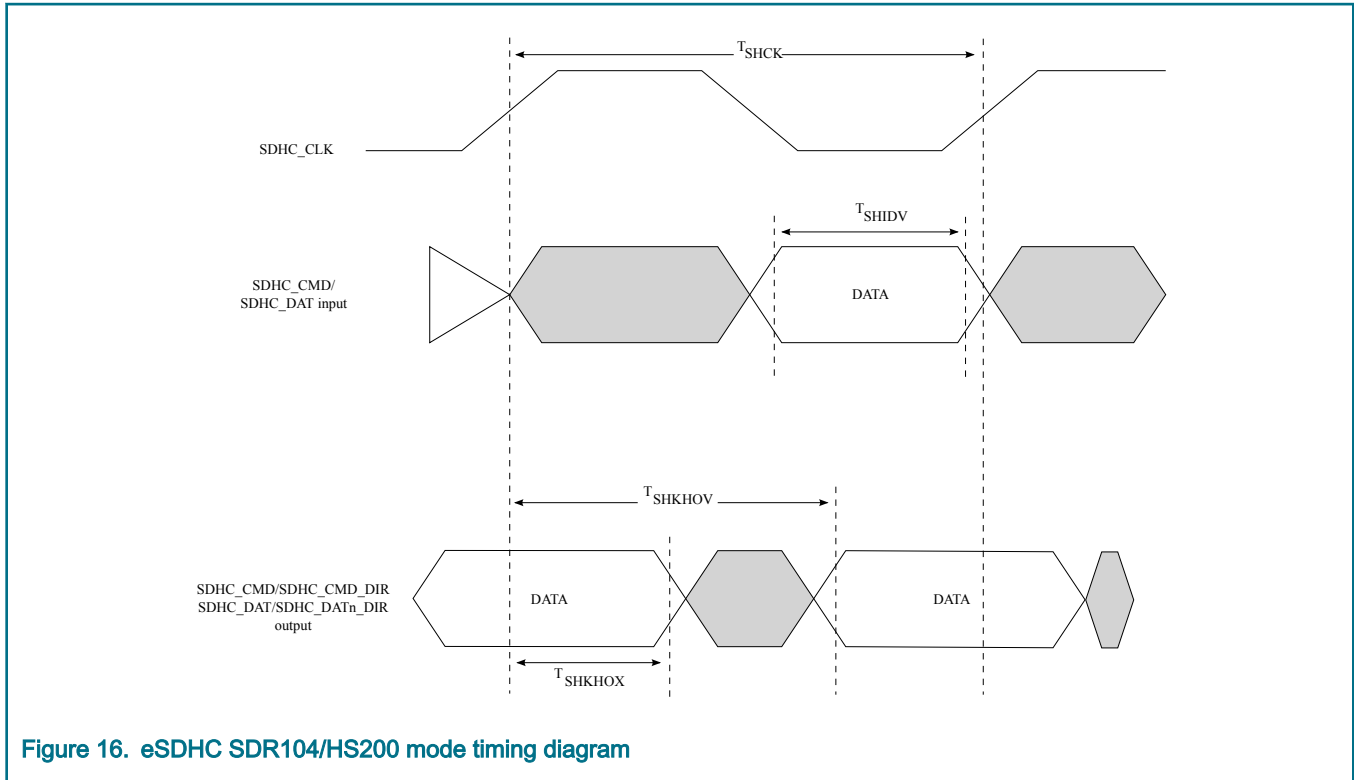
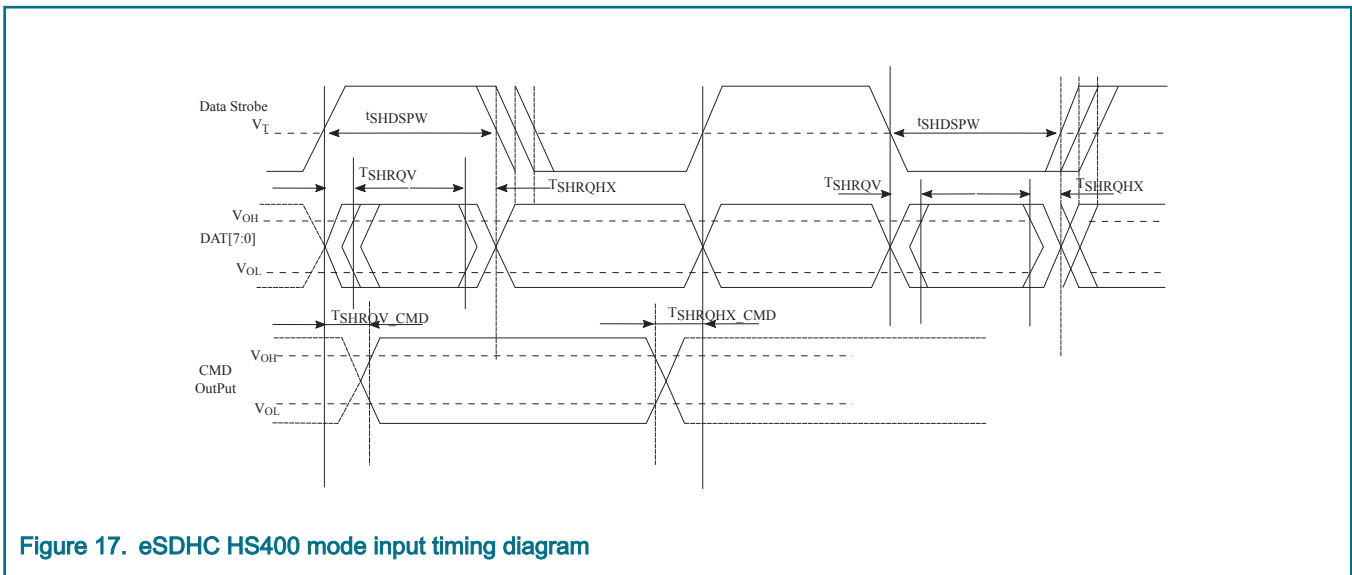

Figure 16. eSDHC SDR104/HS200 mode timing diagram
Figure 17. eSDHC HS400 mode input timing diagram
2. The symbols used for timing specifications herein follow the pattern of t_{(first two letters of functional block)(signal)(state) (reference)(state)} for inputs and t_{(first two letters of functional block)(reference)(state)(signal)(state)} for outputs. For example, t_{SHKHOX} symbolizes eSDHC highspeed mode device timing (SH) clock reference (K) going to the high (H) state, with respect to the output (O) reaching the invalid state (X) or output hold time. Note that in general, the clock reference symbol is based on five letters representing the clock of a particular functional. For rise and fall times, the latter convention is used with the appropriate letter: R (rise) or F (fall).
3. See Figure 16.
<p>1. $C_L = C_{BUS} + C_{HOST} + C_{CARD} \leq 15pF$.</p> <p>2. The symbols used for timing specifications herein follow the pattern of $t_{(first\ two\ letters\ of\ functional\ block)(signal)(state)\ (reference)(state)}$ for inputs and $t_{(first\ two\ letters\ of\ functional\ block)(reference)(state)(signal)(state)}$ for outputs. For example, t_{SHKH0X} symbolizes eSDHC highspeed mode device timing (SH) clock reference (K) going to the high (H) state, with respect to the output (O) reaching the invalid state (X) or output hold time. Note that in general, the clock reference symbol is based on five letters representing the clock of a particular functional. For rise and fall times, the latter convention is used with the appropriate letter: R (rise) or F (fall).</p> <p>3. See Figure 17.</p> <p>4. See Figure 18.</p> <p>5. For HS400 without enhanced strobe (DQS) command, see Figure 16.</p>